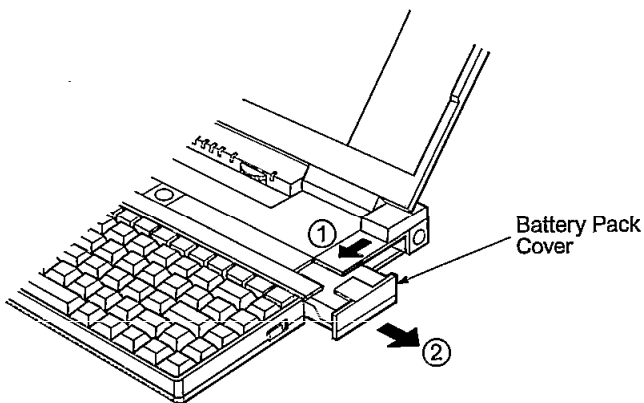

Figure 10
3. Remove the battery pack cover after sliding it toward the front of computer. (Refer to Figure 10)